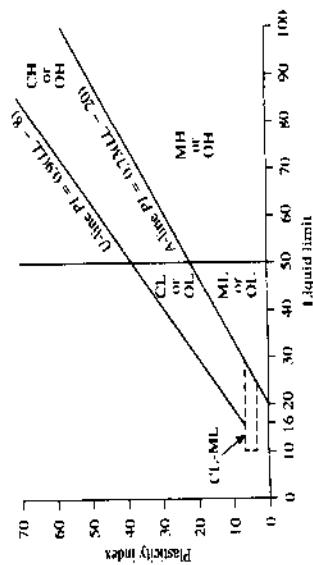

Figure 5.3 Plasticity chart
- *If $4 \leq PL \leq 7$ and points in the hatched area in Figure 5.3, use dual symbol CL-GM or SC-SM.
*If $4 \leq PL \leq 7$ and points in the hatched area in Figure 5.3, use dual symbol CL-MH.